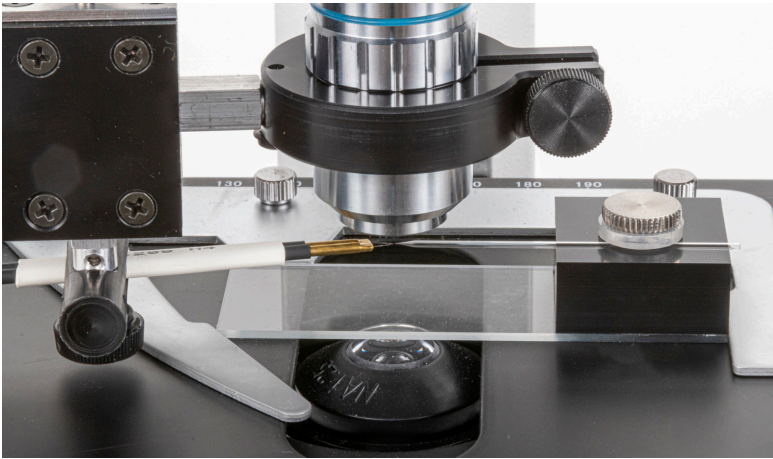

Fig. 11—Micropipette positioned on the microscope stage
Position the Pipette Holder on the microscope stage as if it were a slide. Orient the acrylic block of the pipette holder as shown in Fig. 11.
- d. Raise the stage until the filament is about 3 mm from the objective. (Fig. 11)